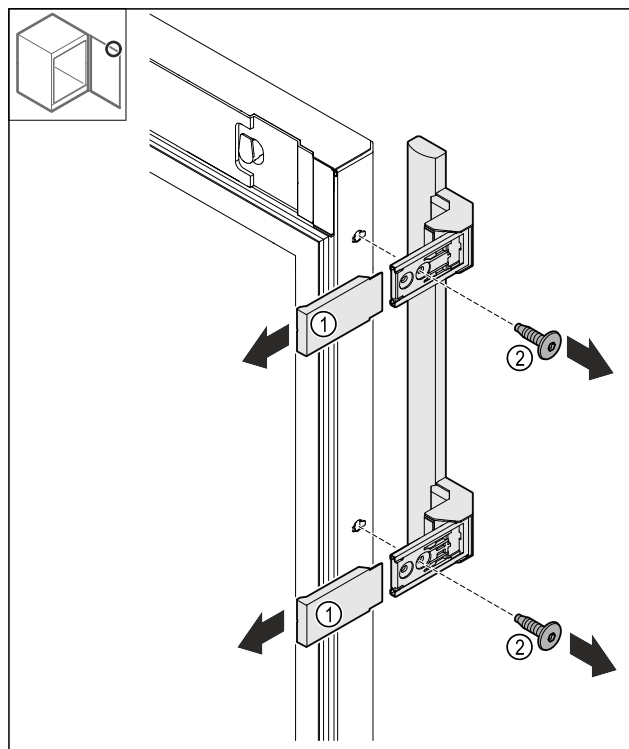

Fig. 19
- Remove the covers Fig. 19 (1).
- Loosen the screws Fig. 19 (2).